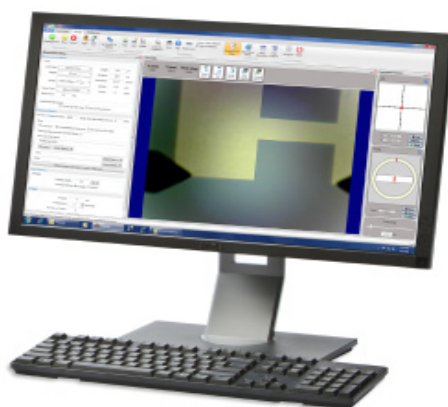

Figure 2-13: Video Monitor
- A video monitor that provides a 23-inch, high-resolution, flat-panel color display (see Figure 2-13). It shows programs and graphics in full color, along with a color video image of the sample surface from the USB camera in the tower assembly.